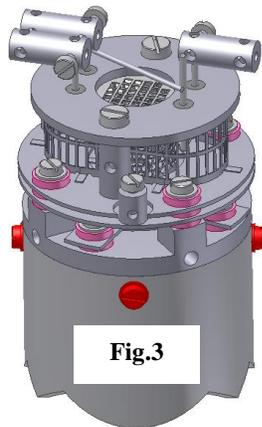

Fig.3
4. Remove the two M2 x4 pan head screws highlighted in red holding the filament plate in place, see Fig.3.
5. Remove the four M2 x4 screws and shakeproof washers highlighted in red that hold the source assembly to the filter assembly, see Fig.3.